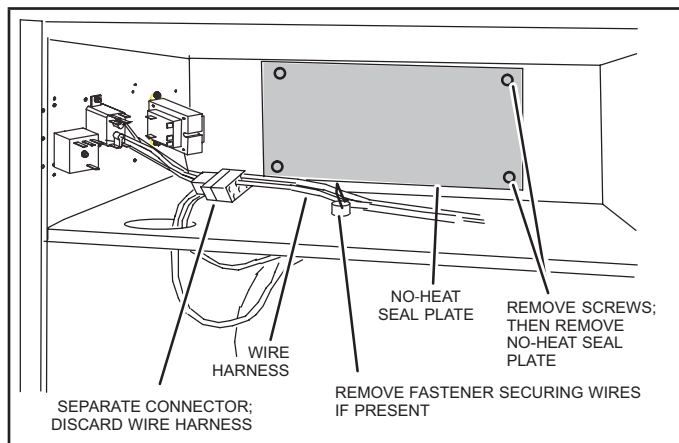

FIGURE 5. Prepare to Install Heat Element
- 3 - Disconnect any existing field supply wires and pull them out of the air handler. Disconnect and remove wiring harness and fastener (see figure 5). If not removed, these items will prevent the heat section's base from resting properly in the compartment.
- 4 - Remove the no-heat seal plate in the air handler frame (see figure 5).